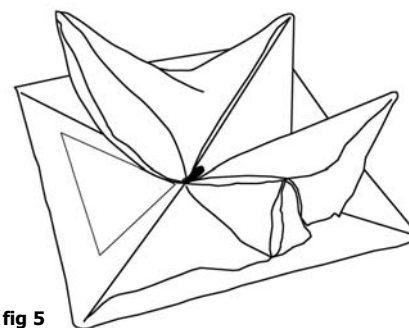

fig 5
Step 5: The Shelter should now look like this (fig 5).